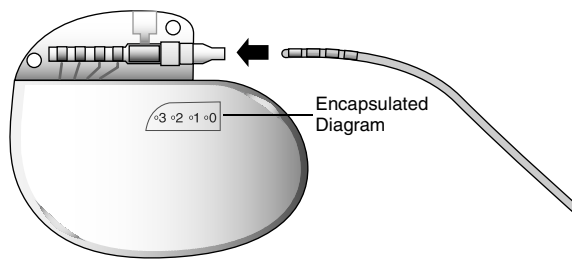

Figure 2. Insert lead fully into Model 3058 Neurostimulator connector block.
3. Confirm that the lead has four electrodes matching the encapsulated diagram on the neurostimulator (Figure 2).
4. Insert the lead into the neurostimulator connector block until fully seated (Figure 2).